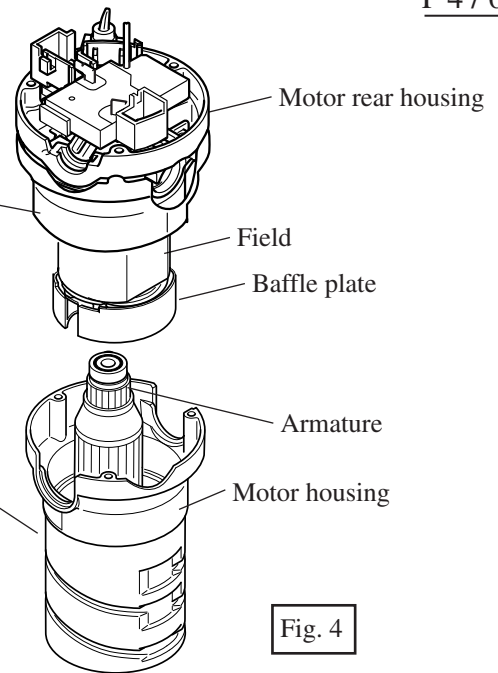

Fig. 4
(2) Remove motor rear housing from motor housing as illustrated in Fig. 4.